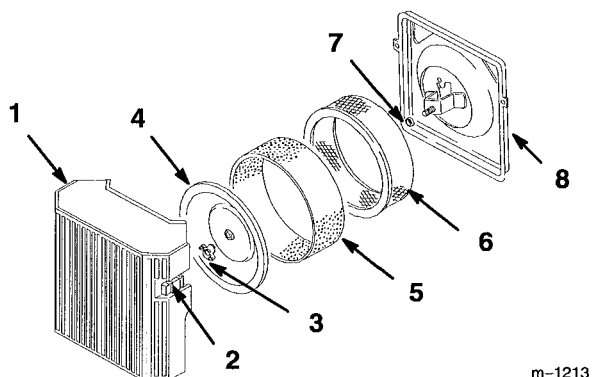

Figure 14
2. Clean around the air cleaner to prevent dirt from getting into the engine and causing damage. Unhook latches and remove the air cleaner cover (Fig. 14).
3. Carefully slide the foam element off the paper element (Fig. 14).
4. Unscrew the cover nut and remove the cover and paper element (Fig. 14).
1. Carefully slide the foam element onto the paper air cleaner element (Fig. 14).
2. Place the air cleaner assembly onto the air cleaner base (Fig. 14).
3. Install the air cleaner cover and secure with cover nuts (Fig. 14).